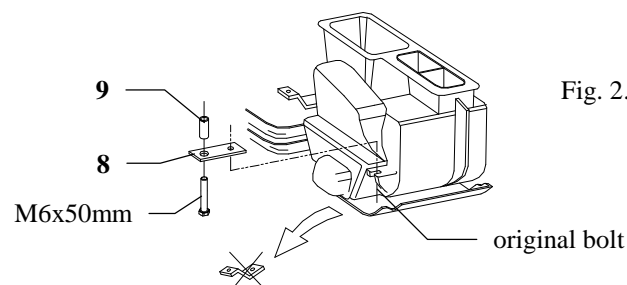

Fig. 2. Filter installation
2. In long version with air-conditioning disassemble a filter (fig. 2).
4. Between mounted angle bar put main bar of the towing hitch (pos. 1) and fix by bolts M12x40mm (pos. 12) and:
- **long body version** – put bend fish-plates (pos. 6 and 7) and fix all using bolts M12x110mm (pos. 11) and M10x45mm (pos. 15)
- **short body version**- through holes B fix main bar to the chassis members by bolts M12x110mm (one each side, bend fish-plates pos. 6 and 7 not used)
5. Fix body of the automat (pos. 10) and the socket plate (pos. 3) using bolts M12x25mm (pos. 14) from accessories. Place tow-ball (pos. 2) according to supplied instruction.
6. In long version with air-conditioning reassemble a filter (see fig. 2).